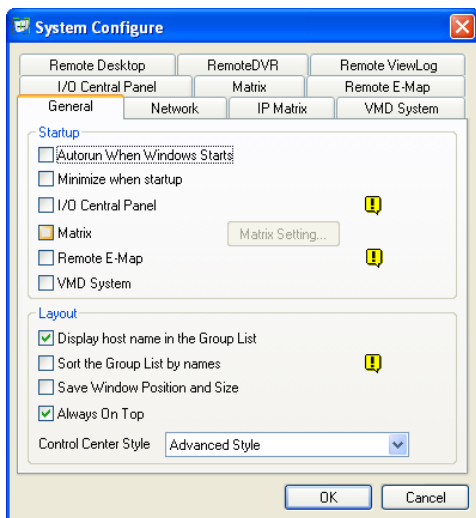

Figure 4-85
1. Click the **Configure** button and select **System Configure**. The System Configure dialog box (Figure 4-85) appears.